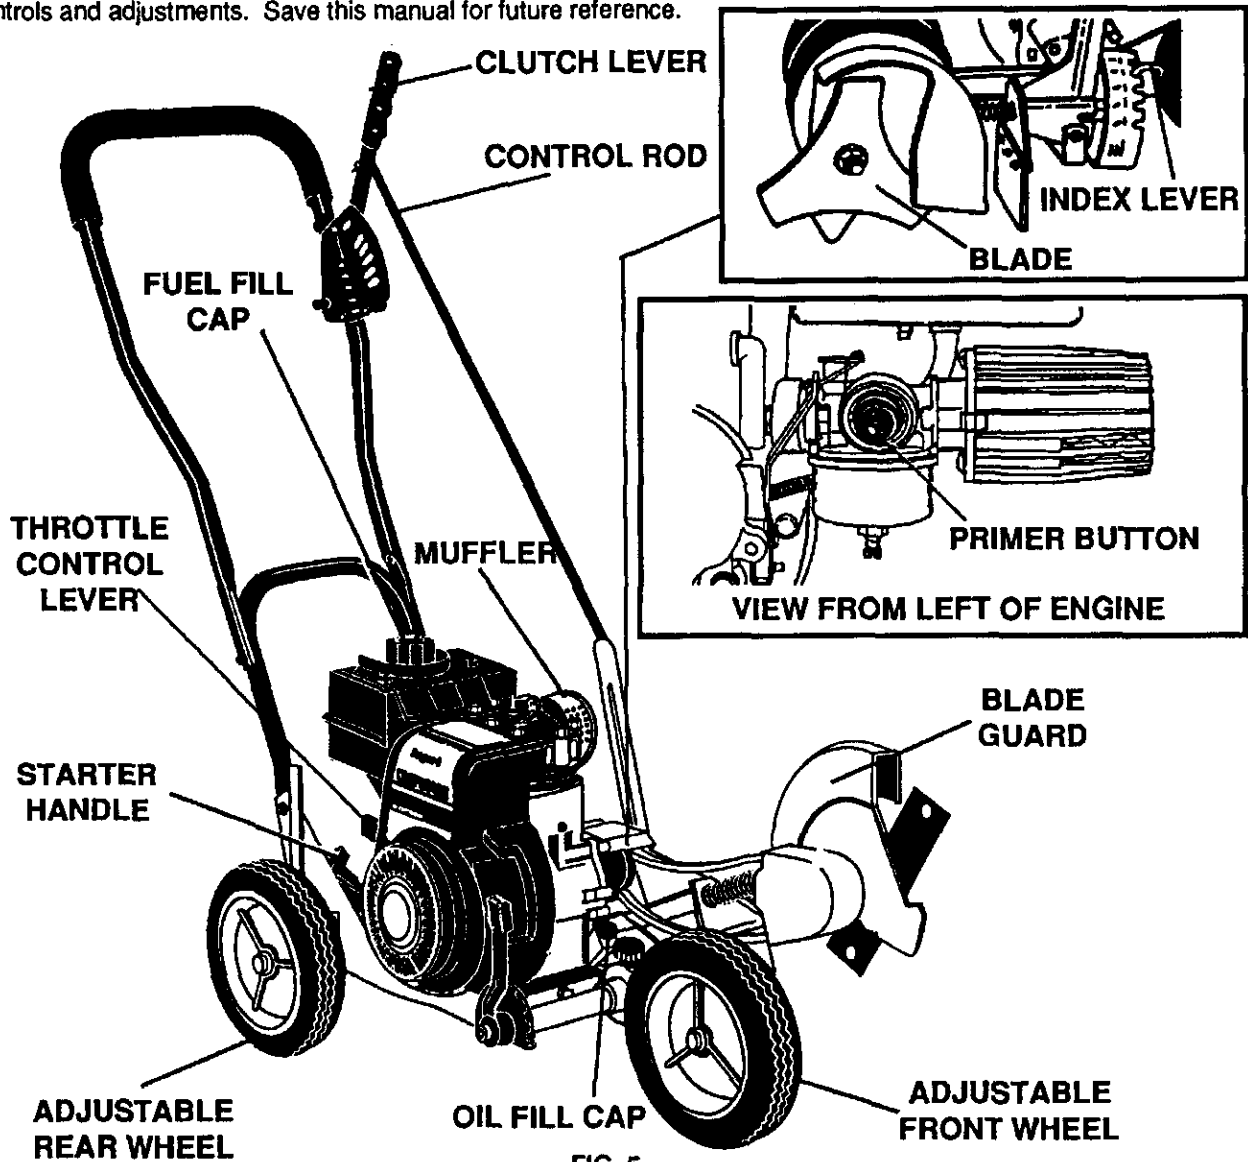

FIG. 5
- Push primer button five (5) times (see Fig. 5). Wait about two (2) seconds between each push.
- Move the clutch lever into all six (6) positions in the selector plate. Make sure the clutch lever snaps into all six (6) holes. (Fig. 5)
- Move the throttle control lever (See Fig. 5) to the RUN position.